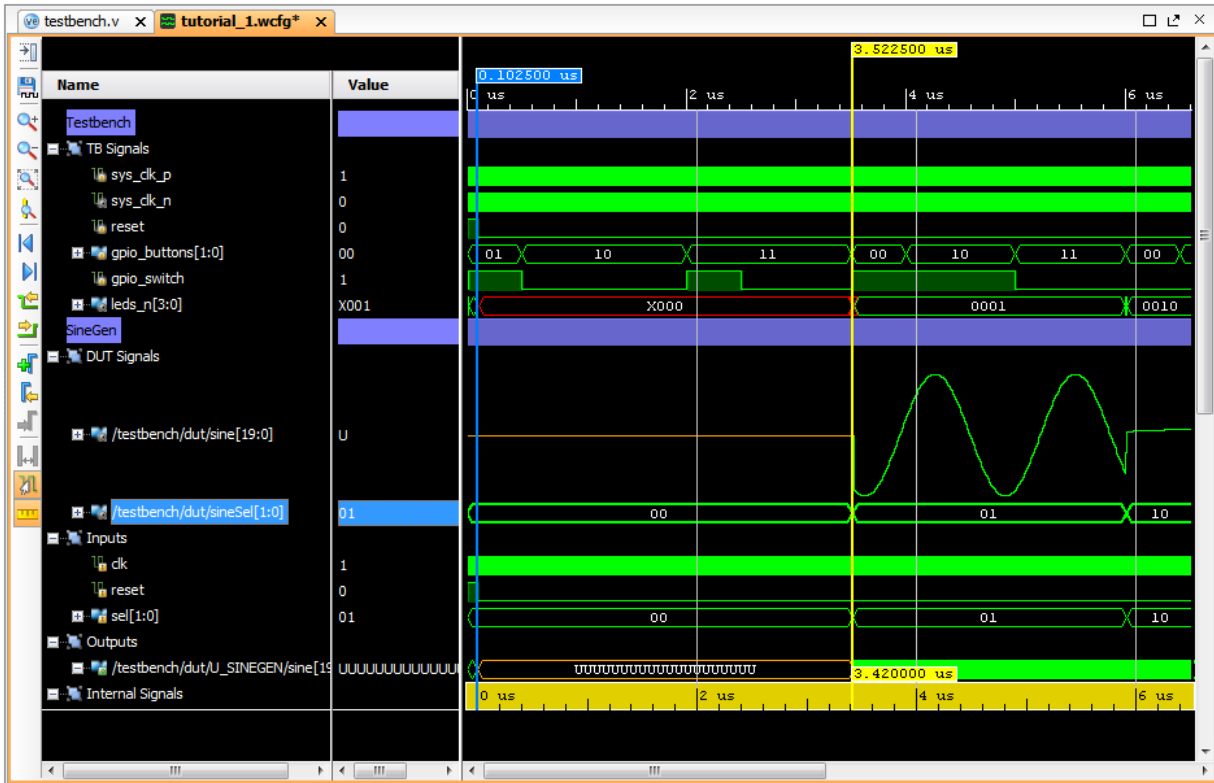

Figure 26: Measuring Time in the Waveform
10. Because 00 is the initial or default FSM output, move the cursor to the first posedge of `sys_clk_p` after reset is asserted low, at time 102.5 ns, as seen in Figure 26.
As shown in Figure 26, the ruler measures a time period of 3.420 ns as the period that FSM selected the low frequency output.